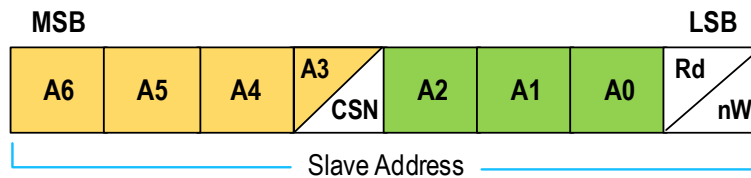
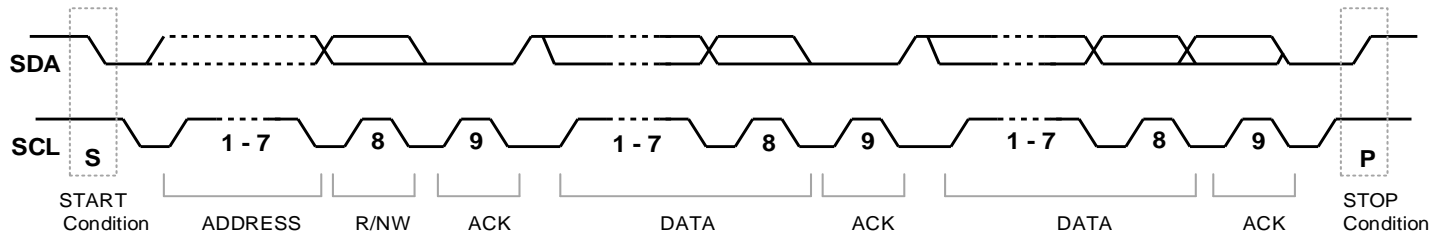

Figure 20. I2C Slave Address Byte
Figure 21. I2C Data Format
The I2C data transfer format is shown in Figure 21. After the START condition (S), a 7-bit slave address, followed by a READ (high) or WRITE (low) bit is sent by the master as shown in Figure 20.
Address bits A6 to A3 (shaded orange in Figure 20) can be individually programmed by the user, allowing up to 14 individual I2C slave addresses, ranging from 0001BIN to 1110BIN. Restricted addresses are 0000BIN and 1111BIN. Address bits A2 to A0 (shaded green in Figure 20) are reserved bits and always '0'. The programming of A6 to A3 can be done using an external programming tool.